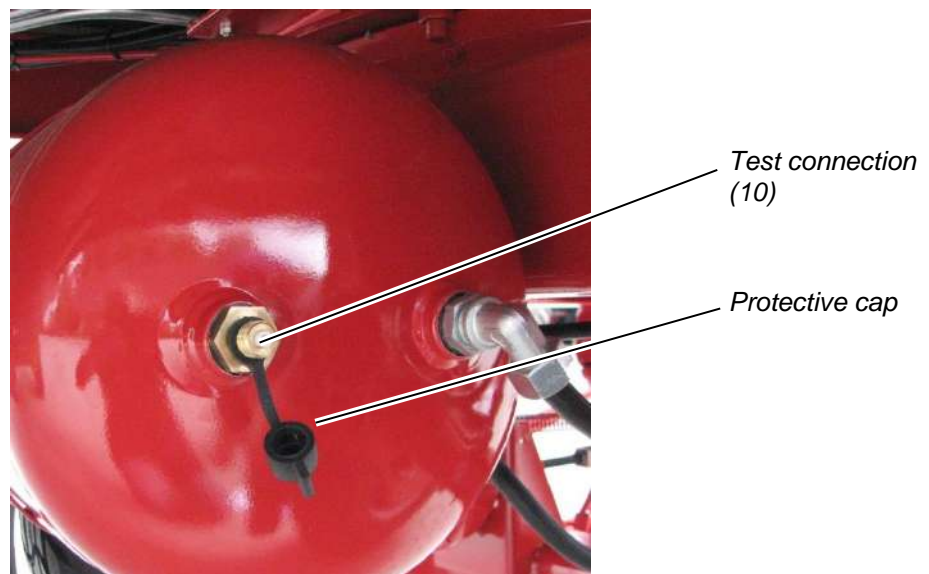

Figure 43: Test connection for a pressure gauge on the compressed air tank
- ⇒ Remove the protective cap from the test connection (10) (see Figure 43).
- ⇒ Insert the pressure gauge into the test connection (10) and read the measured air pressure.
- ⇒ Place the protective cap back on the test connection (10).
- ↳ The supply line (4), marked in red, will be pressurised with compressed air and will fill the compressed air tank.